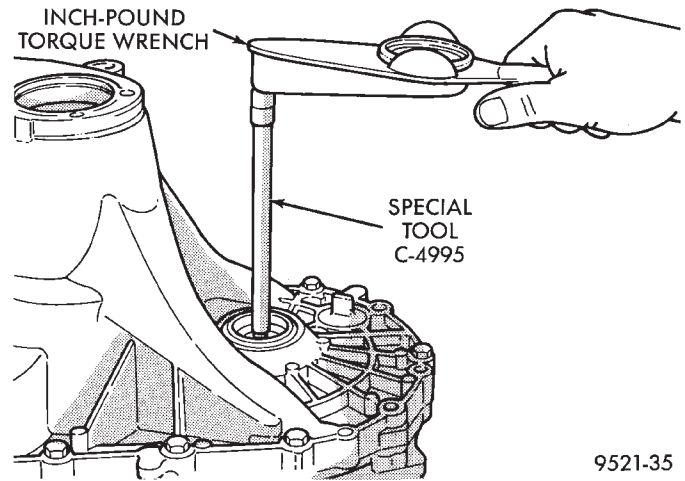

Fig. 86 Checking Differential Bearing Turning Torque
- (7) The shim required for proper bearing preload is the **total of end play, plus (constant) preload of 0.18mm (0.007 in.)**. Never combine shims to obtain the required preload.
- (8) Remove case bolts. Remove clutch bellhousing differential bearing cup. Install shim(s) selected in Step Step 7. Then press the bearing cup into clutch bellhousing.
- (9) Install clutch bellhousing. Install and torque case bolts to 26 N·m (19 ft. lbs.).
(10) Using Special Tool C-4995 and an inch-pound torque wrench, check turning torque of the differential assembly (Fig. 86). **The turning torque should be 6 to 12 in. lbs. If the turning torque is too high, install a 0.05mm (0.002 inch) thinner shim. If the turning torque is too low, install a 0.05mm (0.002 inch) thicker shim.**